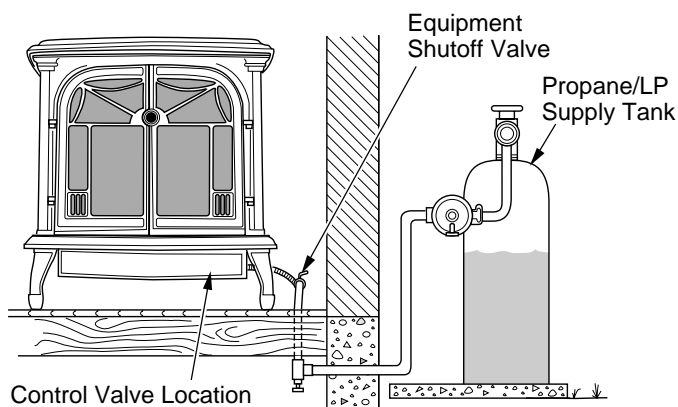
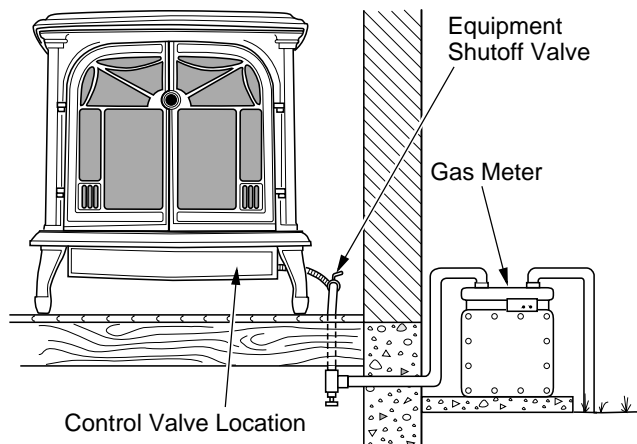

Figure 46 - Checking Gas Joints for Propane/LP Gas Burner System
Figure 47 - Checking Gas Joints for Natural Gas Burner System
3. Check all joints from propane/LP supply tank or gas meter to equipment shutoff valve (see Figure 46 for propane/LP or Figure 47 for natural). Apply noncorrosive leak test solution to all gas joints. Bubbles forming show a leak. Correct all leaks at once.
4. Check all joints from equipment shutoff valve to thermostatic gas valve (see Figure 46 for propane/LP or Figure 47 for natural). Apply noncorrosive leak detection solution to all gas joints. Bubbles forming show a leak. Correct all leaks at once.